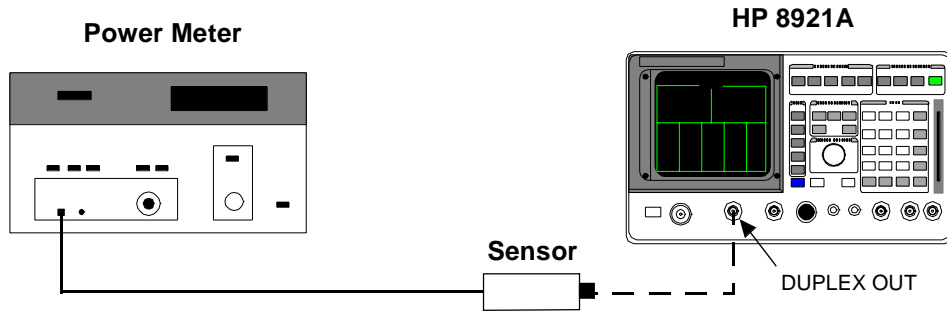

Figure 10 Receiver Path Loss - POWERREF Measurement
1. See *figure 10*. Zero the power meter and set the power meter calibration factor if required. Connect the power meter sensor to the Test Set DUPLEX OUT.